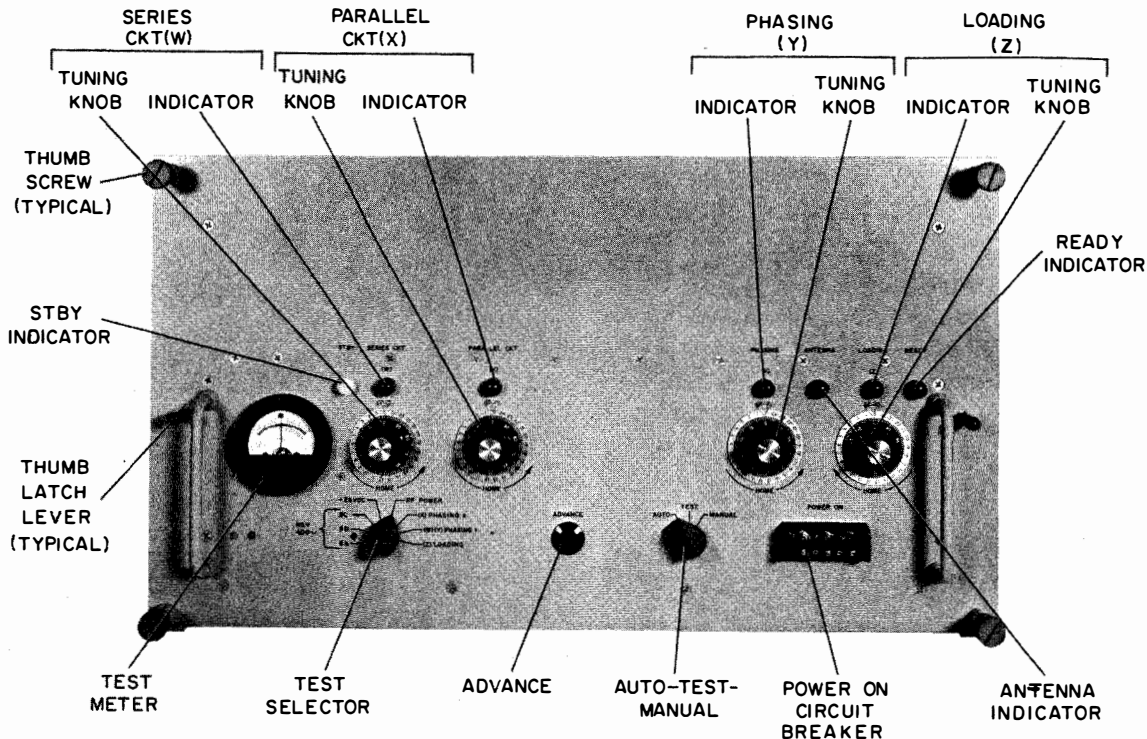

Figure 3-1. Antenna Coupler CU-1169/SRC-16, Controls and Indicators
(1) Extend cabinet slides until they lock in place.
(2) Place antenna coupler on cabinet slides, and engage two mitered retaining studs (B) on each side with grooves on antenna coupler sides (C).
(3) Push antenna coupler toward rear of cabinet (unit will move about 3 inches), and lock in place with two captive fasteners (D).
(4) Remove O-ring moisture seal washers from plastic envelope fastened to handle of coupler, and place these rings over rf connectors on bottom of unit so that they rest against the shoulders on these connectors.
(5) Release cabinet slide lock (A), and push antenna coupler firmly into the cabinet.
(6) Press in and turn clockwise four thumb-screws (see figure 3-1) to secure antenna coupler in place.
(1) Turn four thumbscrews counterclockwise (see figure 3-1) until thumbscrews are loose.
(2) Push up on two thumb-latch levers (see figure 3-1), and pull antenna coupler from cabinet as far as it will come.
Table 3-1 lists the functions of antenna coupler controls and indicators. Refer to figure 3-1 for location of controls and indicators.
(1) Move the antenna coupler AUTO-TEST-MANUAL switch to TEST and the test selector to (W) (Y) PHASING 1 (see figure 3-1). Press the ADVANCE pushbutton. If rf level is high enough, series circuit should tune, and test meter should indicate no error when tuning is completed. (Zero error is indicated when test meter pointer rests in the green area of the meter scale.)